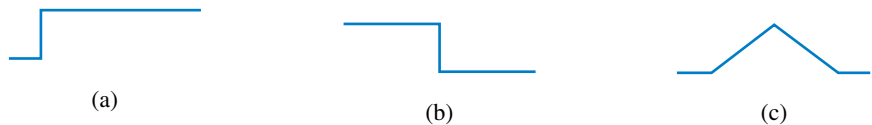

FIGURE 13–7
2. Compute the flux linkage for the coil of Figure 13–5, given $\phi = 500 \text{ mWb}$ and $N = 1200$ turns.